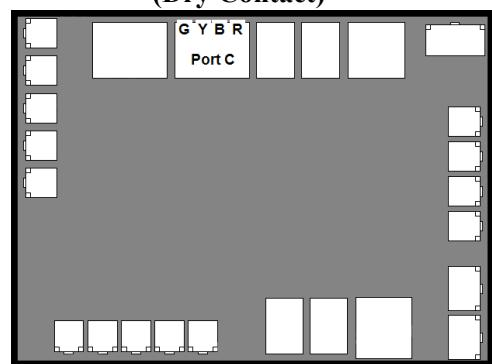

Figure 8
6. Use "Port C" on the control boards as indicated. Connecting the "G" to "G", the "Y" to "Y", and the "B" to "B" on each heat pump's port "C" connection point. **The "R" connection points are not used.** See Figure 8.